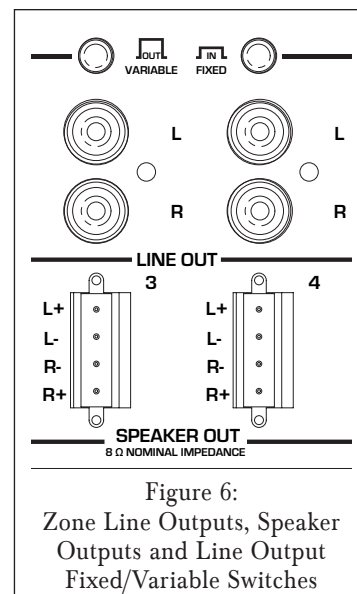

Figure 6:
5. After making sure that there are no stray wires touching each other, tighten the set screws to secure the wires, as shown in *Figure 6*, on page 13.
6. Press the removable connector into the corresponding zone **SPEAKER OUT** connector on the controller until it locks into place (see *Figure 6*).
In addition to Speaker Output connectors, each zone on the C4630 SE also has a set of Line Output jacks (see *Figure 6*). The Zone Line Outputs let you connect high-power amplifiers to individual zones that require more power than the C4630 SE's built-in 30 Watt/ch amplifier can provide, or expand a zone into sub-zones by using a multi-channel amplifier.
Each zone Line Output has a push-button switch that toggles the Line Output between **VARIABLE (OUT)** and **FIXED (IN)**. (See *Figure 6*.) The **VARIABLE** setting allows zone keypad and remote controllers to control the level of the Line Outputs. In the **FIXED** setting the Line Output level cannot be varied. Keypad and remote control **MUTE** controls function in *both* the **FIXED** and **VARIABLE** settings.